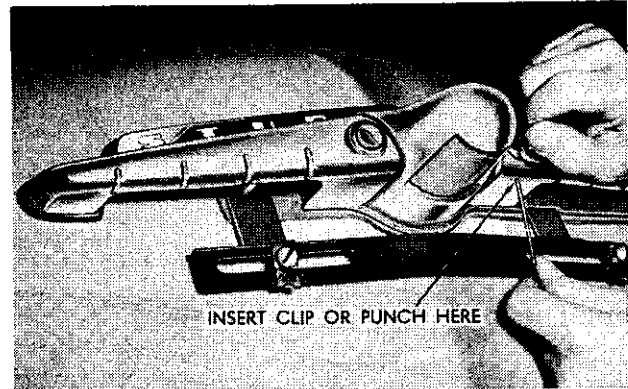

FIG. 29
**CHAMPION AND COMMANDER** Turn the key in the lock cylinder one-quarter turn either way. Inserting a paper clip or small punch in the hole below the cylinder, push the plunger in and pull the cylinder out of the handle (see Fig. 29).